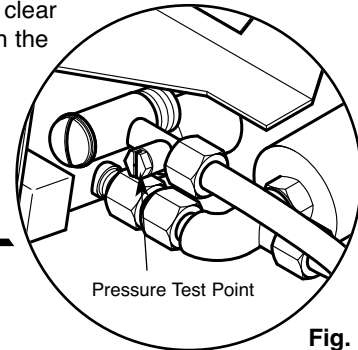

Fig. 10
2. Unscrew the pressure test point sealing screw (Fig. 10) and fit a manometer. Consult the user instructions (page 15). Ignite the appliance and turn to the high position.